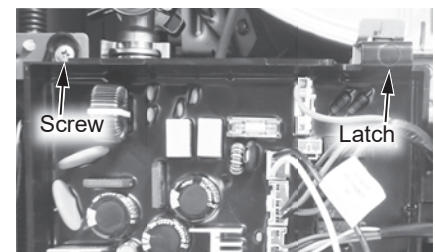

Figure 178 - Control board panel location
- 15 Locate the screw securing the control board panel. Use a Phillips screwdriver to remove the screw and place it aside in a safe place for reinstallation. See Figure 178.